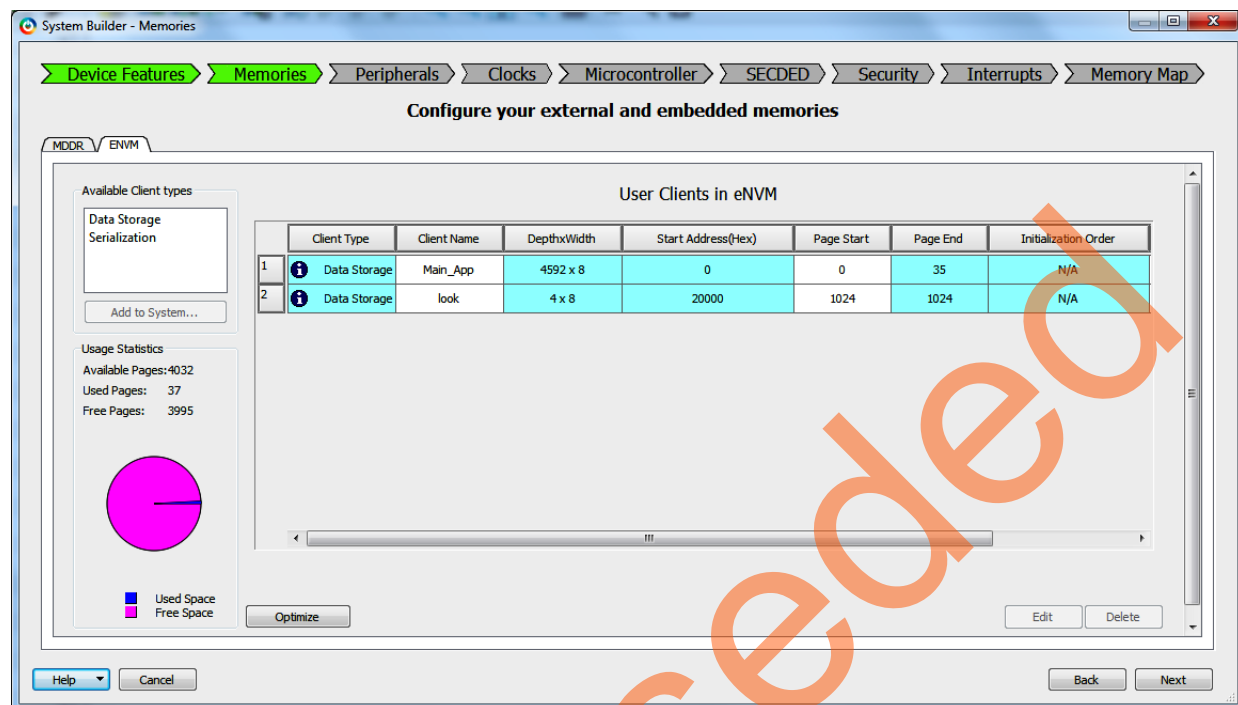

Figure 20 • System Builders - Memories Page
9. In the **System Builder - Memories** page, keep the other settings to default and click **Next**, see Figure 20.